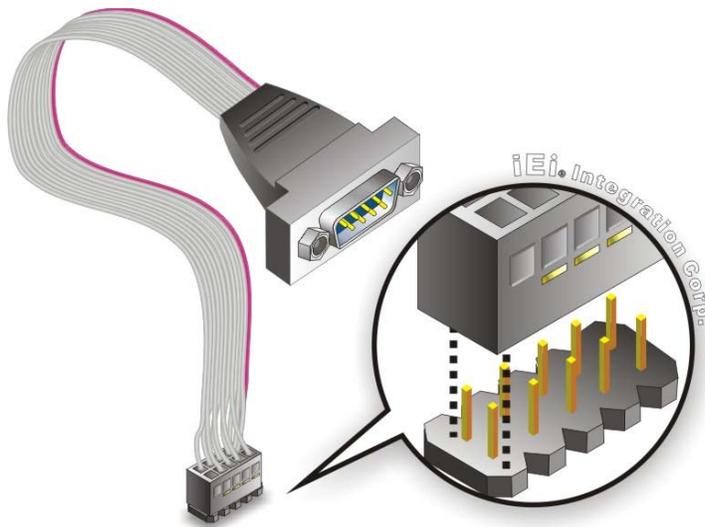

Figure 4-15: Single RS-232 Cable Installation
Step 2: Insert the cable connector. Insert the connector into the serial port box header. See Figure 4-15. A key on the front of the cable connectors ensures the connector can only be installed in one direction.